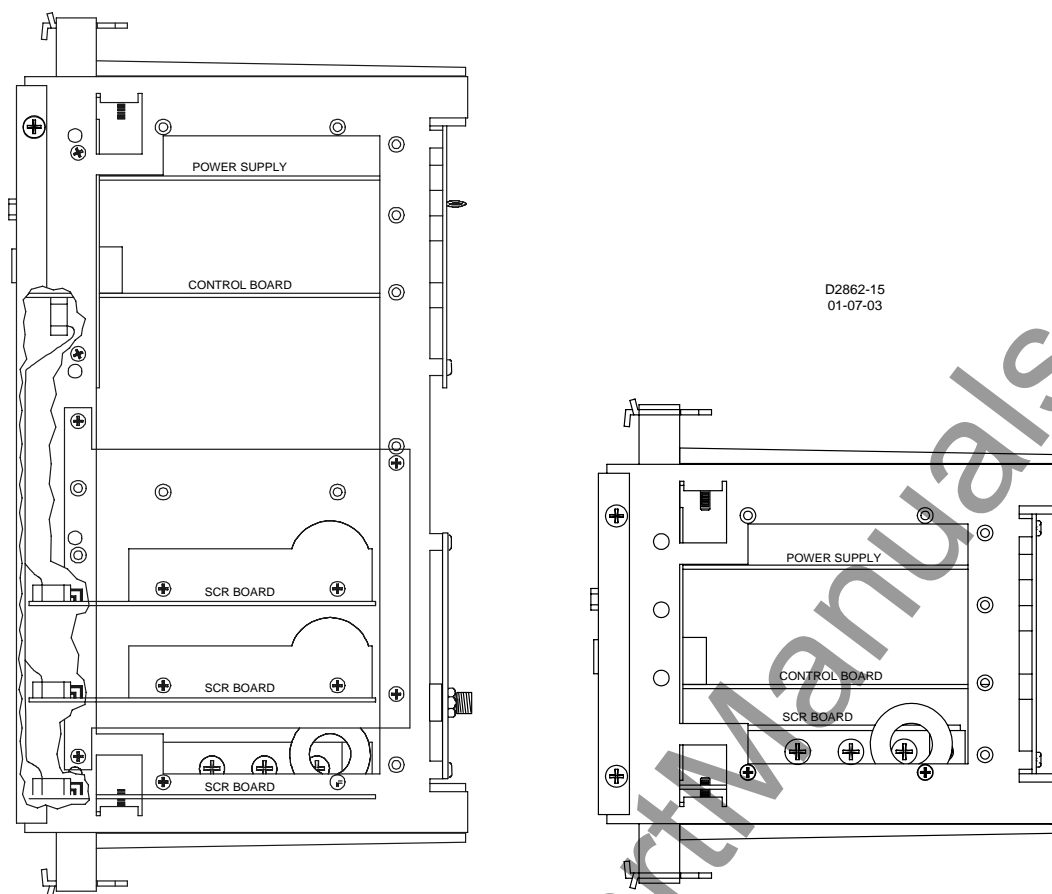
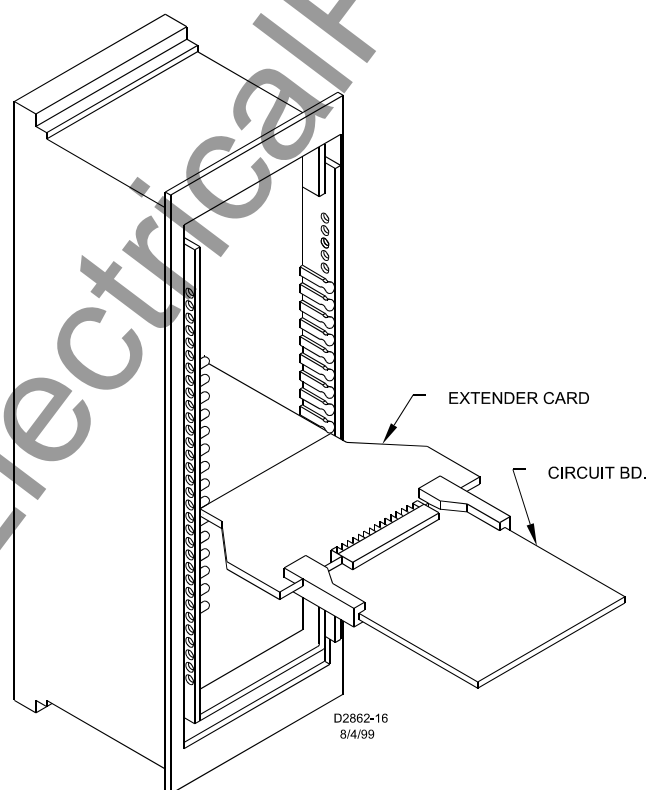

Figure 5-1. Side View of Cradle Assembly (M1 or 19" Rack-Mount and S1 Configuration)
Figure 5-2. Circuit Board Extender Card
| Figure 5-1. Side View of Cradle Assembly (M1 or 19" Rack-Mount and S1 Configuration) | 5-2 |
| Figure 5-2. Circuit Board Extender Card | 5-2 |
The following procedures should be used for acceptance testing the BE1-87B relay. The only difference between testing a single-phase model and three-phase model is the test connections for phases B and C of the three-phase model. Refer to the connection diagram associated with each test. Also refer to Figures 3-1 through 3-3 for the location and description of the relay controls and indicators. Figure 5-1 shows the side view of the M1 or 19" Rack-Mount and S1 relays with the individual circuit boards identified. Figure 5-2 illustrates the use of the circuit board extender card.
4. Remove the Control Board, refer to Figure 5-1, and install the Circuit Board Extender Card, Basler part number 9112930101 (refer to Figure 5-2).